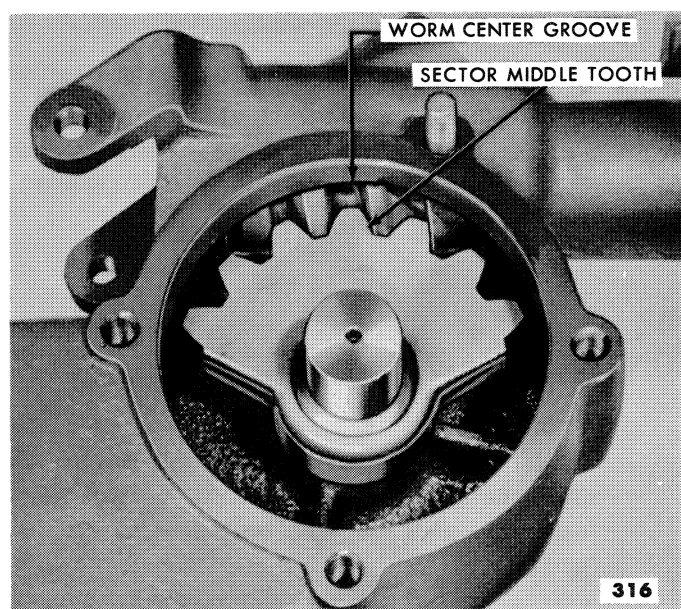

Figure 21—Sector Gear Properly Engaged with Worm
8. Install the thrust washer on the sector shaft, then install the sector shaft in the housing so that the middle tooth of the sector gear engages the center groove of the worm as shown in Figure 21.